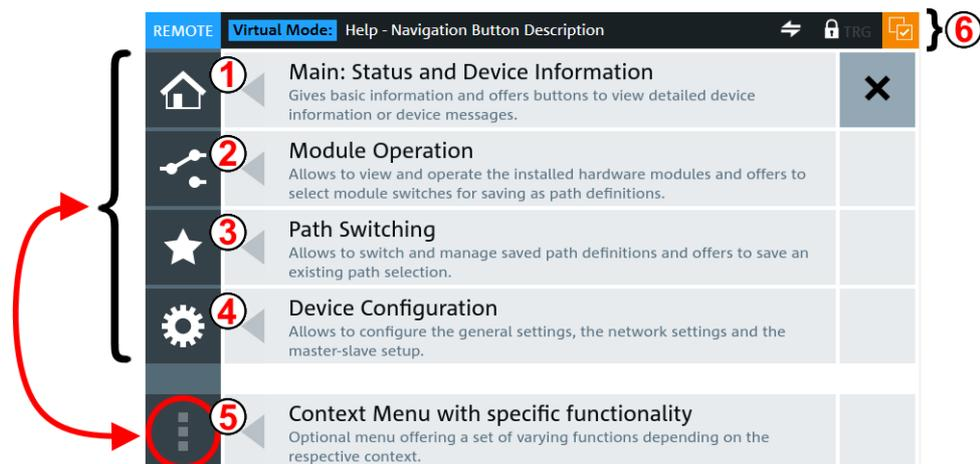

Figure 2-17: Main elements of the graphical user interface (GUI)
The "**Context Menu**" button calls specific functionality for any of the menu items shown above and listed as (1) to (4) in Figure 2-17. Hence, this button is always used **together** with one of the other buttons.
The status bar is shown on top in Figure 2-16 and Figure 2-17. The various indicator icons have the following meanings: